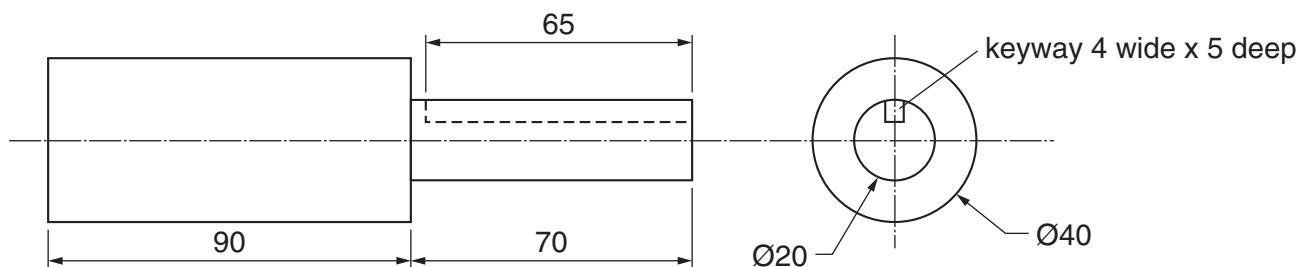

Fig. 3
Fig. 3 shows the drive shaft from the lifting platform.
- (e) (i) State a **suitable specific material** for the drive shaft shown in Fig. 3 and give **two** properties or characteristics that make the material suitable for this use.
- (ii) Describe, in detail, how the drive shaft shown in Fig. 3 would be manufactured.